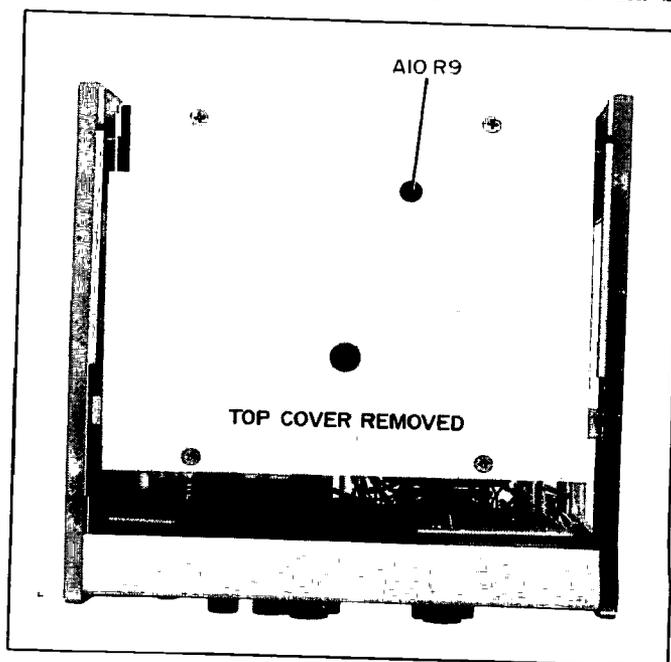

Figure 5-1. 4329A Adjustment Locations
c. Set MODE to "MEASURE" and RANGE to  $I_{MAX}$ , and apply 200mV dc to the UNKNOWN Rx(-) BNC connector (center conductor is positive and outer conductor is negative) using suitable regulated power supply and attenuator combination. Note the deflection and set it to full-scale using AMP, SENS, ADJ. A10R9 (Remove top cover for access to adjustment through hole in circuit shield. See Figure 5-1). Disconnect 200mV.